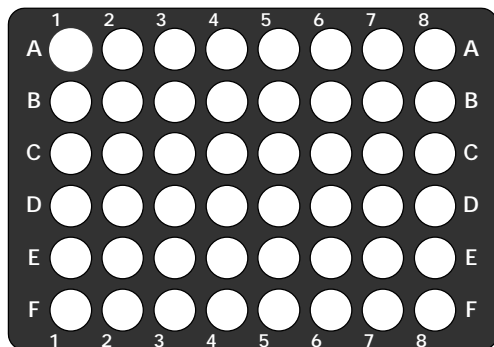

FIGURE 4-1. 48 Position Well Plate
- a) Insert the 48 vial holder (FIGURE 4-1). It will be necessary to use the < EXCHANGE > soft key to move the plate holder to the left to access the plate holder.